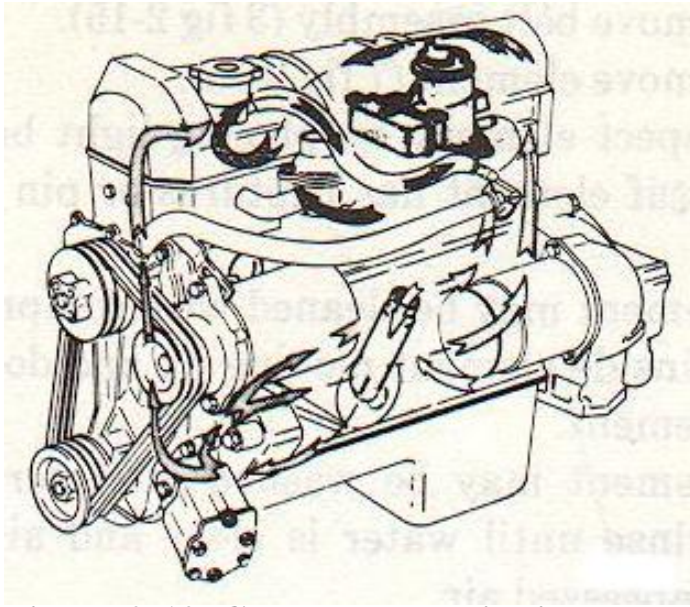

Figure 2-12. Crankcase ventilating system (schematic)
burned. Clean air from the carburetor inlet is routed through the crankcase and in this way the manifold vacuum maintains a continuous circulation of air through the crankcase to reduce air pollution. Refer to figure 2-12.
f. Positive Crankcase Ventilation. The crankcase ventilation system (fig. 2-12) should be periodically inspected for loose, deteriorated or plugged hoses. Inspect all hose connections. Oil leakage at the rocker arm cover may be an indication that the ventilation control valve is restricted. Remove regulator valve and wash in cleaning solvent; dry with compressed air. Connect a tachometer and vacuum gage; start engine and adjust idle speed and carburetor mixture (a) above.